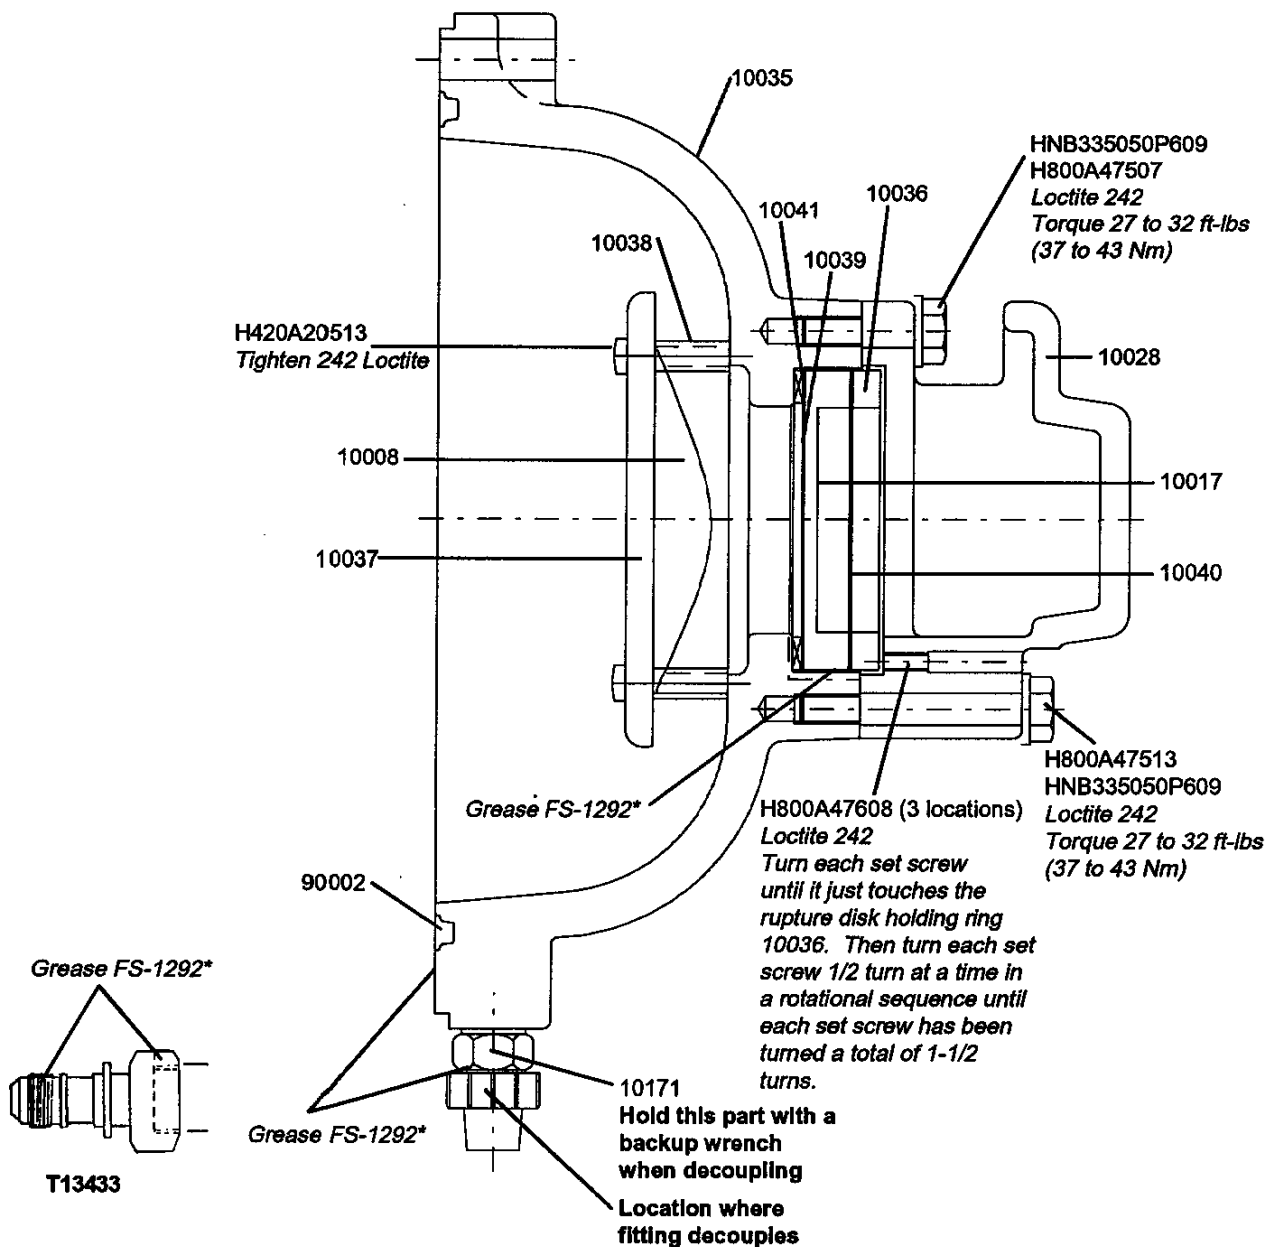

Figure 6
"Desiccant" refers to a molecular sieve which removes moisture as well as SF6 decomposition products from the gas. A desiccant bag 10008 (Fig. 6) is installed in every pole unit at the rear tank cover assembly 10032, just behind the rupture disk.
1. Obtain a new desiccant bag 10008 (Fig. 6). These bags are shipped in a hermetically sealed reinforced aluminum foil bag to prevent contamination due to atmospheric moisture. The date of manufacture is marked on the outer bag.
3. Install the desiccant bag by removing the three M6 Phillips head bolts H420A20513 (Fig. 6), which hold the cover 10037 and spacers 10038 in place. Place the new desiccant bag between the cover and spacers and reinstall. Apply Loctite 242 and tighten each bolt. (Refer to Plate 7.)
To install the rear tank cover assembly 10032 (Fig. 6) with desiccant:
General gas filling procedures are discussed in detail in the Maintenance module of this manual. After completing work inside the pole unit and immediately before closing the tank, install a new desiccant bag 10008 (Fig. 6) in the rear tank cover assembly 10032 (as per section 3.9) and re-install the rear tank cover assembly (as per section 3.10).
1. Install the DILO quick disconnect tool T13433 (Fig. 6) to the hose of the gas service unit.